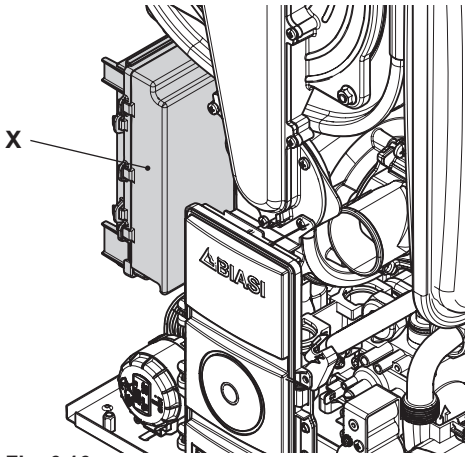

Fig. 6.16
- Identify the terminal block cover lid "X" (Fig. 6.16) and open it.